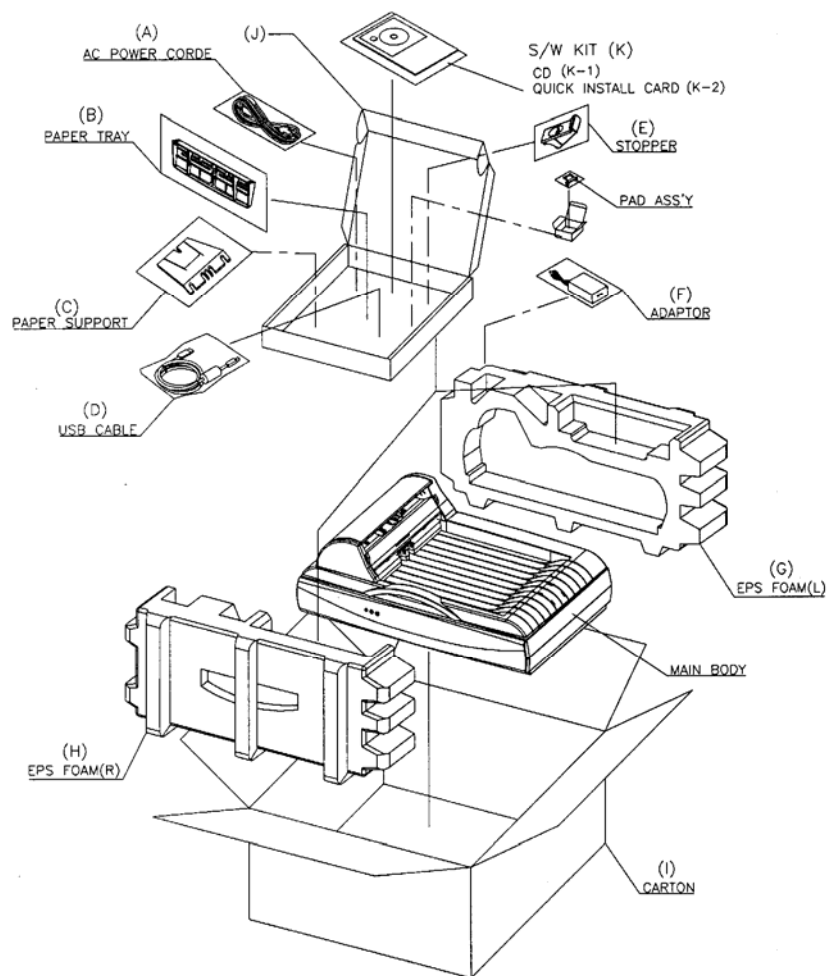

Figure 3.1 Package Contents
- Check the items by referring to Figure 3.1.